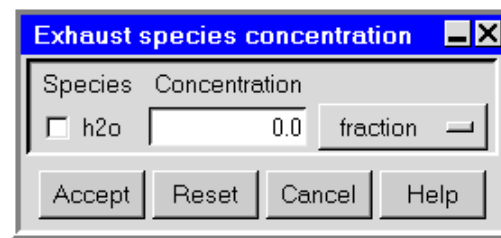

Figure 25.2.20: The Exhaust species concentration Panel
4. If you have enabled the **Species** option in the **Problem setup** panel, you can specify species parameters for the diffuser exhaust air using the **Exhaust species concentration** panel (Figure 25.2.20). To open the **Exhaust species concentration** panel, select **Species** in the **Box method parameters** panel and click **Edit**.